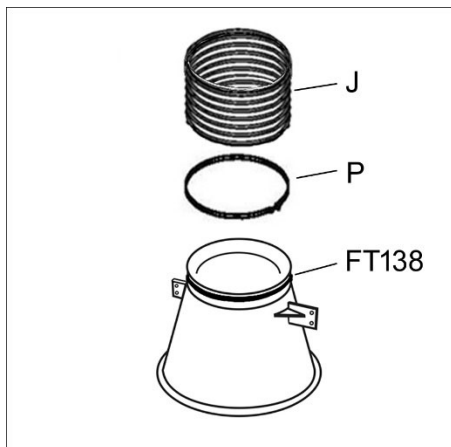

Figure 5-6
8. Turn cone upside down. See Figure 5-6.
10. Work the hose (J) onto the cone, and secure with clamp (P).